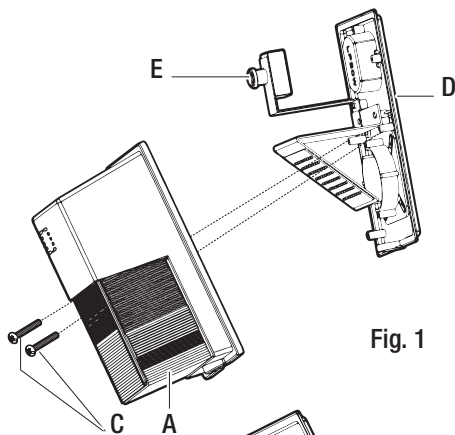

Fig. 1
- Loosen the two mounting base screws (C) using a Phillips screwdriver and remove the cover (A). (Fig. 1)